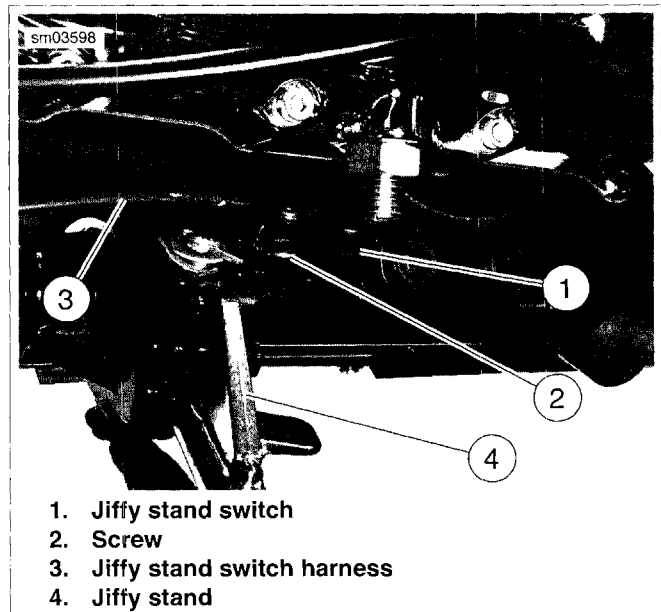

Figure 6-110. Jiffy Stand Switch
See Figure 6-110. International models are equipped with a jiffy stand interlock feature. If the rider attempts to start the engine or pushes the starter button while the transmission is in gear and the jiffy stand is down, the jiffy stand interlock system will not permit the engine to run. The message "SidE StAnd" will scroll across the odometer to indicate this to the rider. Raising the jiffy stand (or putting the transmission in neutral) will permit the engine to run and clear the message.
4. See Figure 6-110. Remove screw (2). Remove jiffy stand switch (1) and harness from vehicle.
1. See Figure 6-110. Install jiffy stand switch (1), attach with screw (2), finger-tight.